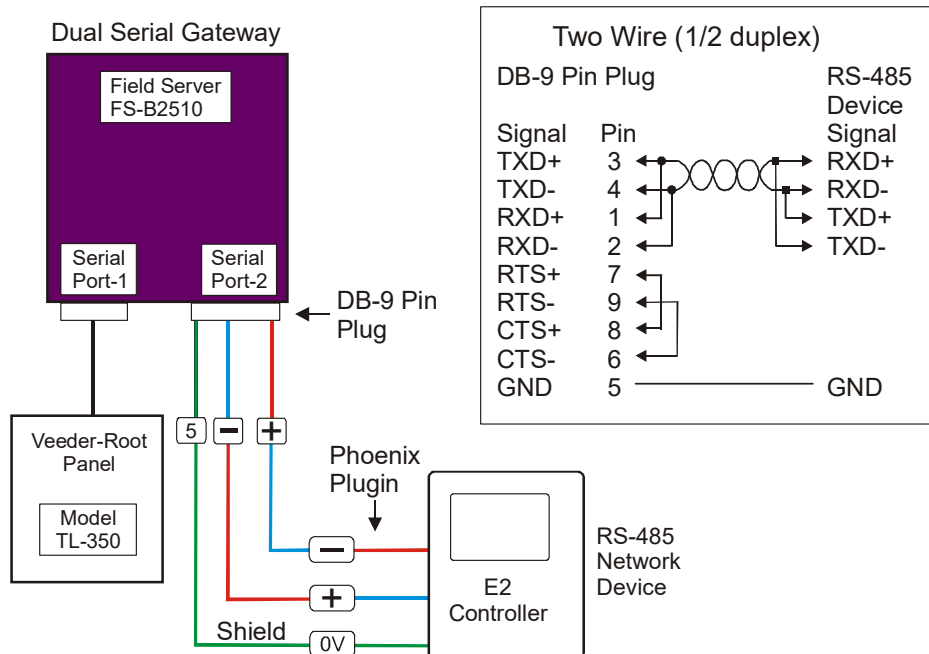

Figure 3 - Wiring Diagram to RS485 Network Cable
- Connect the DB-9 Pin Serial Communication Cable Plug as shown in Figure 3 - Wiring Diagram to RS485 Network Cable, (3)TXD + and (4)TXD -.